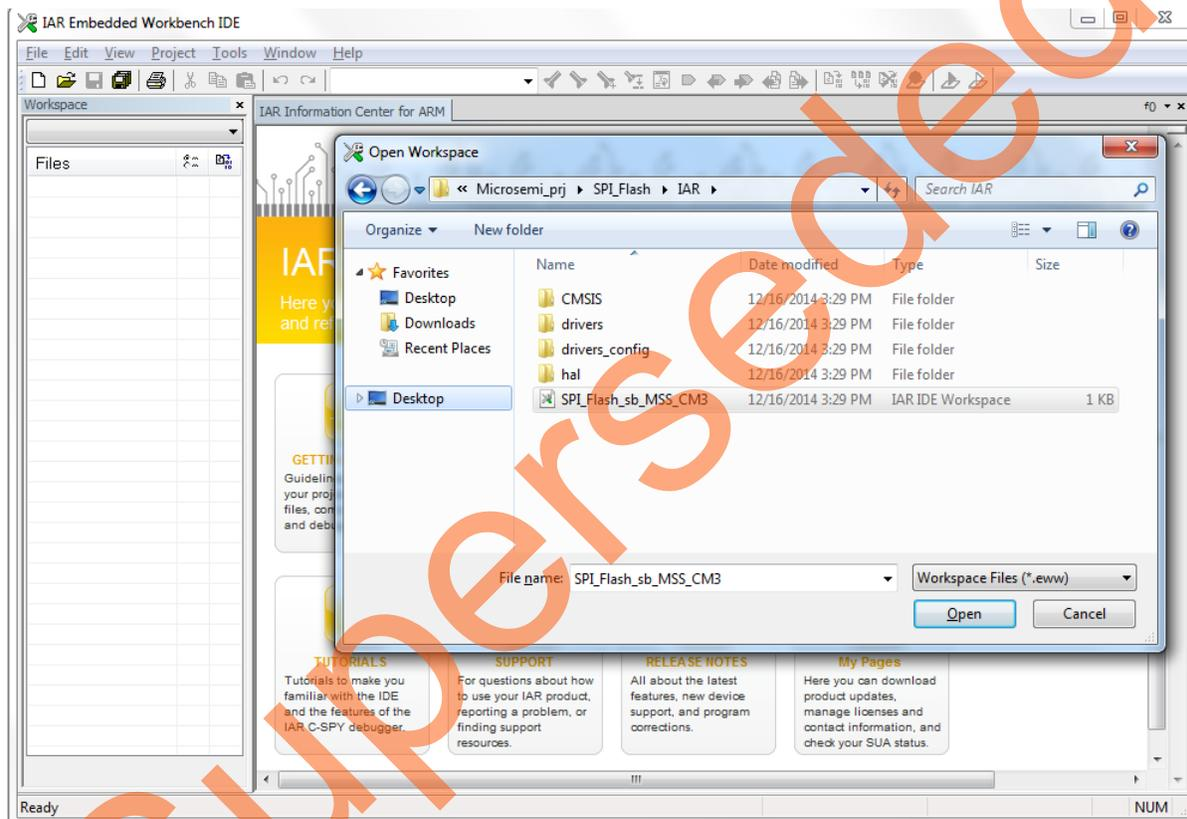

Figure 20 • Invoking IAR Embedded Workbench from Libero SoC Software
2. Open the IAR project by double-clicking **SPI_Flash_sb_MSS_CM3 IAR** project as shown in Figure 20.